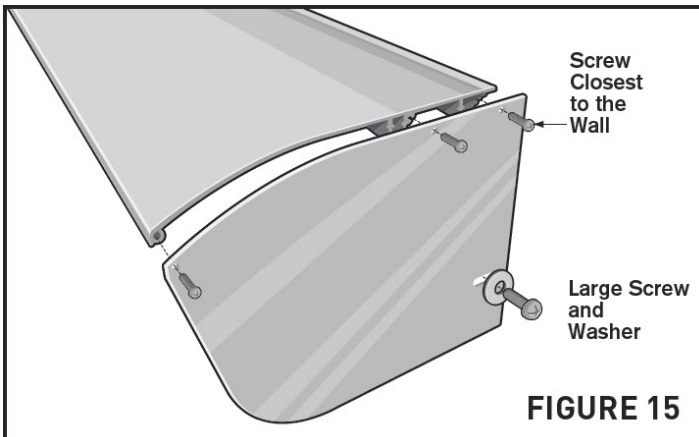

FIGURE 15
12. Secure the Hood End Plate to the Hood top assembly with three (3) small Phillips head screws, starting with the screw closest to the wall. See **Figure 15**.
13. Install one of the larger Phillips head screw and flat washer thru the slot on the Hood End Plate and into the threads on the Square Bar Fitting, and tighten the screw. See **Figure 15**.